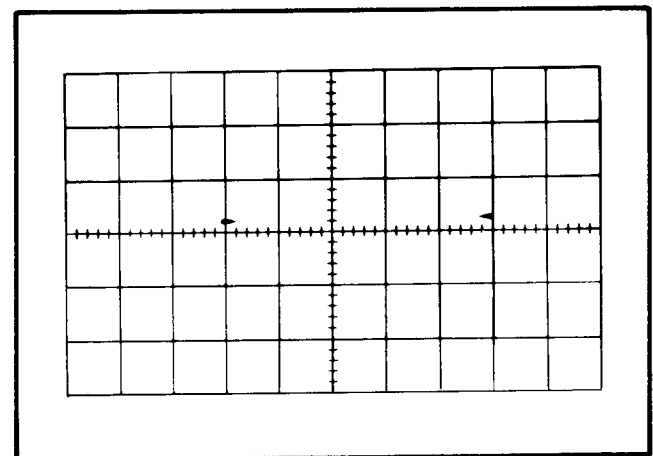

Fig. 5-26. Typical CRT display showing correct X Gain.
- f. CHECK—CRT display for five divisions horizontal deflection, (see Fig. 5-26).